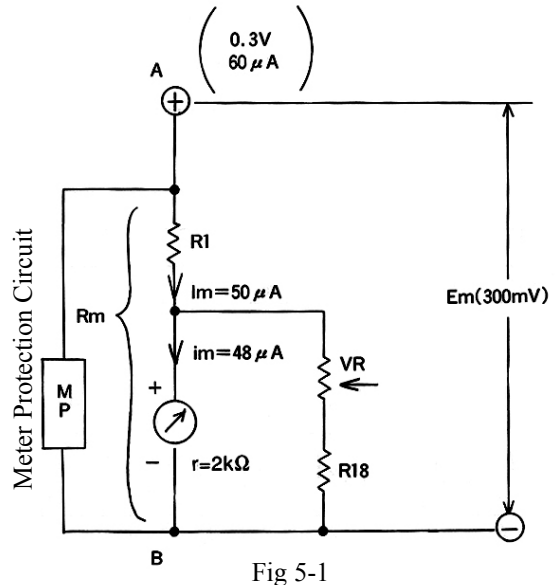

Fig 5-1
In the meter circuit shown in Fig 5-1,  $VR + R_{18}$  will act as a shunt that magnifies  $i_m$  into  $I_m$ . Therefore, when this resistance is defined as  $R_0$ , the equation (18) in Page 22 becomes